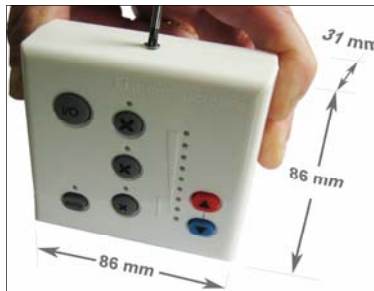
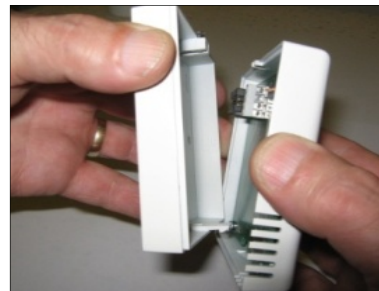

Fig 1
Fig 2
Step 1 Using a screwdriver undo the screw on the top of the Remote Control case and pull the back case away (see Fig 1 and Fig 2 below).